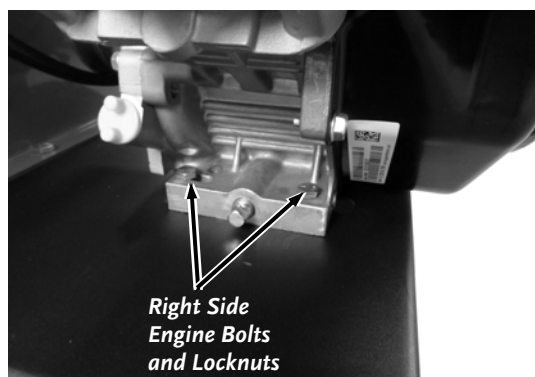

Figure 17
3. Loosen the two right side Engine Mount Bolts and Locknuts using two 1/2" Wrenches (**Figure 17**).